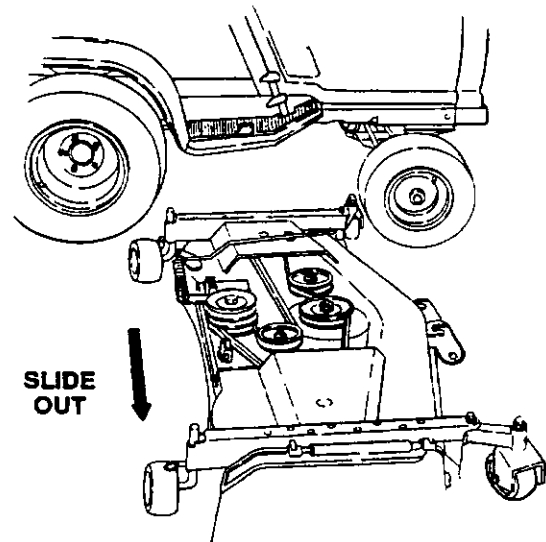

Figure 41
19. With tractor implement lift handle raised to its highest setting, slide the deck to the right and out from under the tractor. (Refer to Figure 41.)